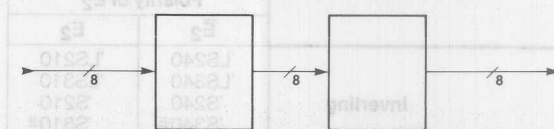

Figure 5B. Nose-to-Tail Configuration
- “Nose-to-tail” or “pipelined” (Figure 5B).